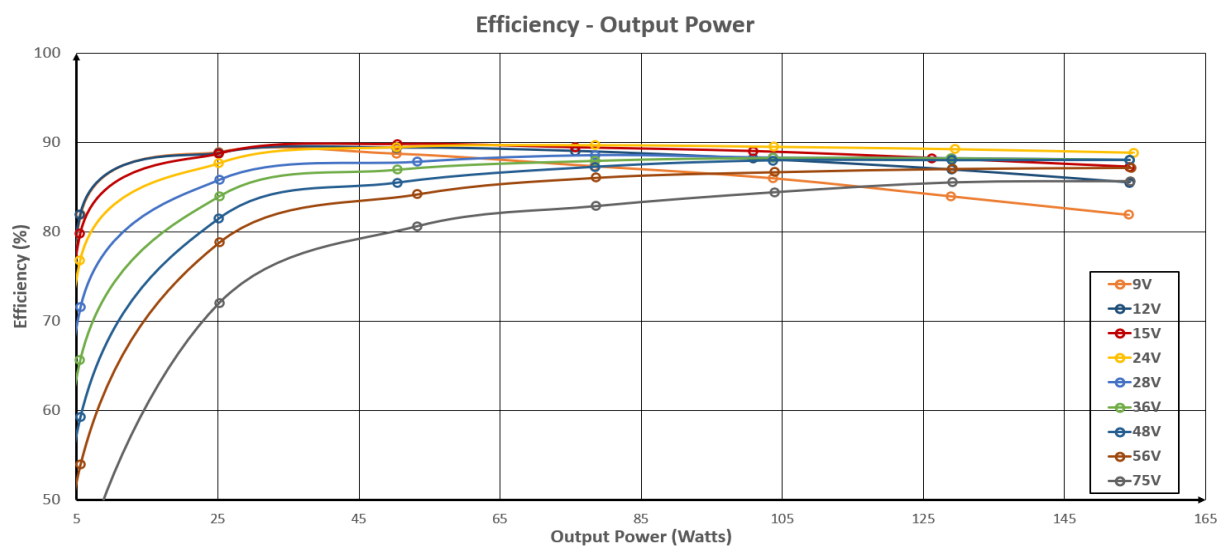

Figure-3
**Note:** The Efficiency-Output Power graph provides a clearer view of the relationship between output power and efficiency for each load value. (Figure-3 / Efficiency - Output Power Graph)